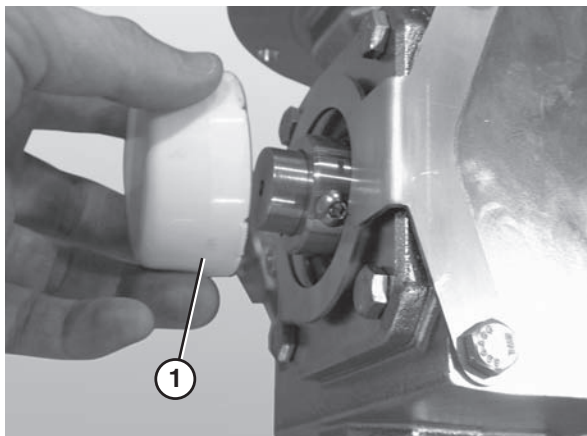

Figure 13
3. Remove the gearmotor cover (**Figure 13, item 1**). Use a screwdriver to pry it loose, if necessary.